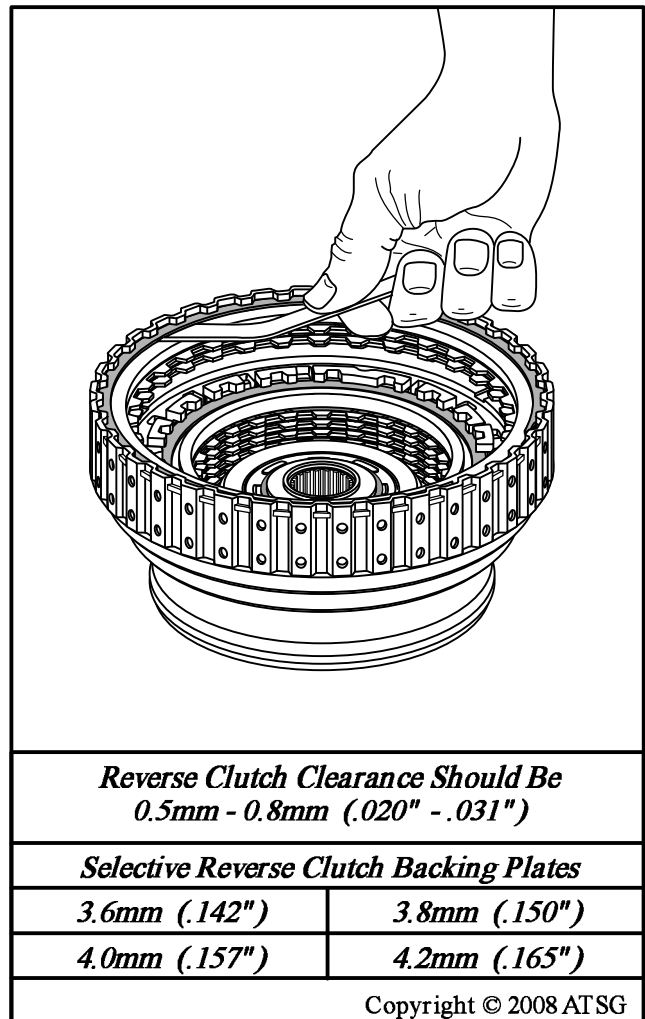

Figure 142
21. Measure reverse clutch clearance using feeler gage between backing plate and snap ring, as shown in Figure 142.
22. Change selective backing plate as necessary using the chart in Figure 142.